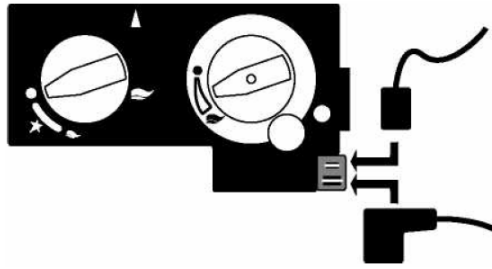

Fig. 20
- Chimney connection set part number A9225000 Fig 20 part D.
- 3) Connect the wires to the gas control (see fig.20).